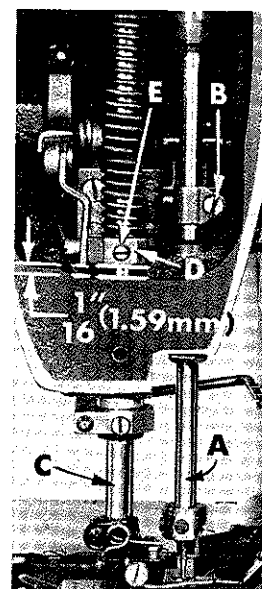
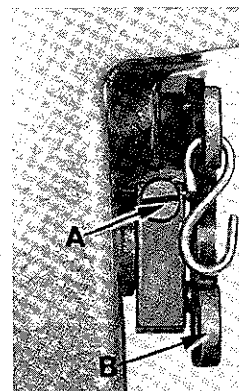

Fig. 4
Fig. 16
Align the needle bar (A, Fig. 4) and set to height, using the proper test pins and test plate of the right gauge. See chart below:
If test plate and test pins are not available, insert a new set of needles (Type and Size as required) and align the needle bar so that the needles correspond with the vertical face of the needle guard. To turn needle bar, loosen needle bar clamp screw (B, Fig. 4) and turn bar as required. Tighten clamp screw.
The height of the needle bar should be correct if proper test plate and test pins were used to "align" needle bar. If not, the height of the needle is correct when the top of its eye is $\frac{3}{64}$ inch (1.19 mm) below the underside of the looper, with the looper point flush with the left side of the left needle. If adjustment is necessary, loosen screw (B, Fig. 4) and move needle bar (A) up or down as required and retighten screw. Care should be taken not to disturb the alignment of the needle bar when moving it up or down.
If adjustment is needed, loosen tension release lever screw (A, Fig. 16) located at the back of the machine and move tension disc separator as required. Retighten screw. After adjustment there should be no binding at any point.
The height of the presser bar (C, Fig. 4) is set correctly if it is possible to remove the presser foot when the foot lifter lever (B, Fig. 16) is fully depressed. Also there should be approximately 1/16 inch (1.59 mm) clearance between lower surface of the presser bar connection and guide (D, Fig. 4) and the bottom surface of head opening in the bed when the foot lifter lever is released and the presser foot resting on the throat plate, with the feed dog down below the throat plate.
If adjustment is needed, turn handwheel in operating direction until the needle bar is in the low position. Loosen screw (E, Fig. 4) then, while holding presser foot down on the throat plate surface, pry up presser bar connection and guide with a screwdriver to obtain the 1/16 inch (1.59 mm) setting and retighten screw. Check setting by turning handwheel so that needle bar is in its high position and see if presser foot can be removed as mentioned in previous paragraph.